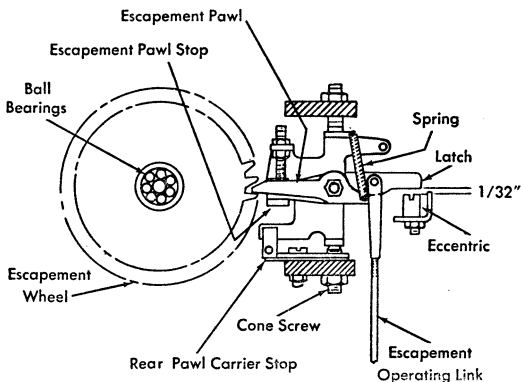

Figure 5. Escapement Wheel and Pawl Carrier Assembly
ESCAPEMENT OPERATING LINKS are to be adjusted so that the latches clear the top of the eccentric studs on the trip lever and slide assembly by $\frac{1}{32}$ " (Figure 5).
2. **ECCENTRIC STUDS** on the escapement trip lever and slide should be positioned so that their high points are toward the escapement wheels (Figure 5).
The action of the latch and the trip lever slide eccentric stud rotates the pawl-carrier assembly. When the pawl carrier rotates on its cone screws, its escapement pawl is removed from the escapement wheel (Figure 5). When a type bar is raised by hand, the edge of the inclined plane on the bottom of the pawl carrier engages the escapement wheel and holds this wheel until the escapement pawl is in position to hold on the next tooth. This is not the case when a type bar is operated under power. Because of the rapid rotation of the pawl carrier, the escapement pawl releases a tooth and is in position to hold on the next tooth without any assistance from the inclined plane. This plane is for the convenience of the aligner during alignment, because it prevents the carriage from skipping to the right margin when a type bar is raised to the platen.
3. **THE PAWL CARRIER** should rotate freely on its cone screws with no end play or binds (Figure 5).